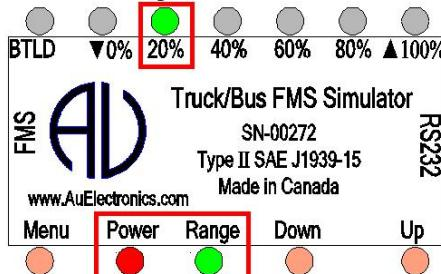

Figure 3-3 Power, Range, 20% LED on, indicating data range is from 21% to 39%
- If keep pressing Up button, the control step value will keep increasing. The 20% LED will then be always on, as shown in Figure 3-3. This indicates a data range from 21% to 39%.